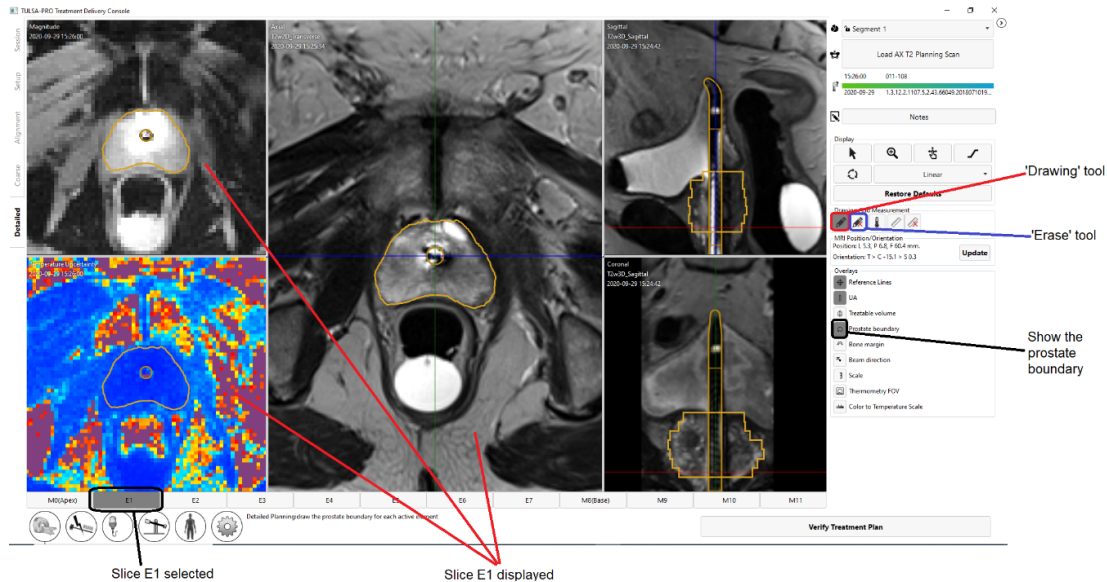

Figure 38: Detailed Planning after drawing boundaries
2. To draw the prostate boundary, select the drawing tool and outline the tissue to be ablated on each slice based on the corresponding AX T2 and THERM magnitude images (Figure 38). You can select individual slices by clicking on the numbered tab at the bottom of the screen or by pressing the left and right arrow keys on the keyboard. Use the sagittal and coronal views of the SAG T2 images to verify the intended ablation zone in three dimensions.